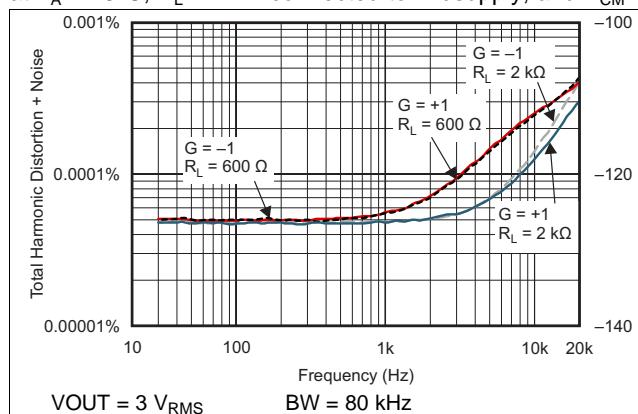
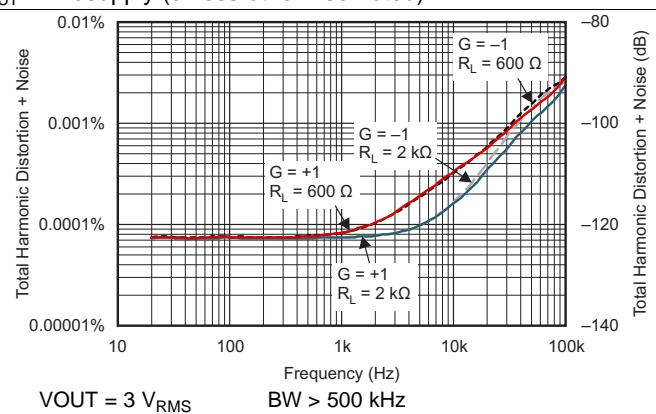
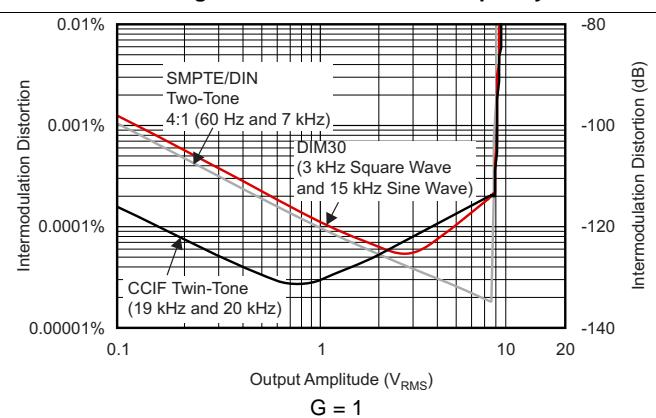

Figure 7. THD+N Ratio vs Frequency
Figure 8. THD+N Ratio vs Frequency
Figure 10. Intermodulation Distortion vs Output Amplitude
Although uncommon for most modern audio applications to require 600- Ω load drive capability, many audio operational amplifier applications continue to specify the total harmonic distortion (THD+N) at 600- Ω load for comparative purposes. Figure 7 and Figure 8 provide typical THD+N measurement curves for the OPA164x-Q1 series, where the output drives a 3-V_{RMS} signal into a 600- Ω load. However, correct device operation cannot be ensured when driving 600- Ω loads at full supply. Depending on supply voltage and temperature, this operating condition can possibly trigger the output current limit circuitry of the device.
The OPA164x-Q1 series operational amplifiers have excellent distortion characteristics. THD + noise is below 0.00005% ($G = 1$, $V_O = 3 \text{ V}_{\text{RMS}}$, $\text{BW} = 80 \text{ kHz}$) throughout the audio frequency range, 20 Hz to 20 kHz, with a $2\text{-k}\Omega$ load (see Figure 7).
(1) For measurement bandwidth, see Figure 7 through Figure 10.